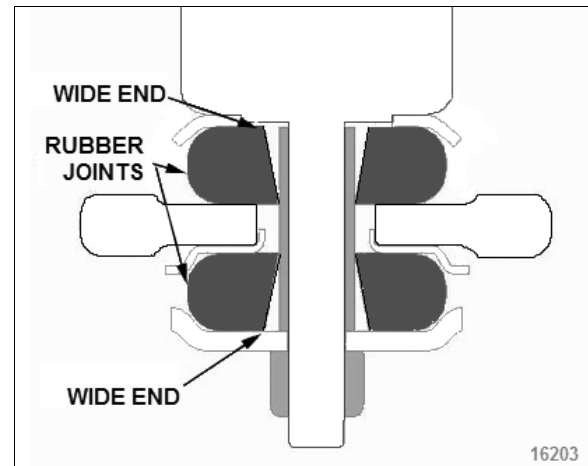

FIGURE 33: LOWER SHOCK MOUNTING BUSHINGS
4. On the lower mounting, take care to install the rubber joints with the wide end of the tapered hole as shown in Figure 33.